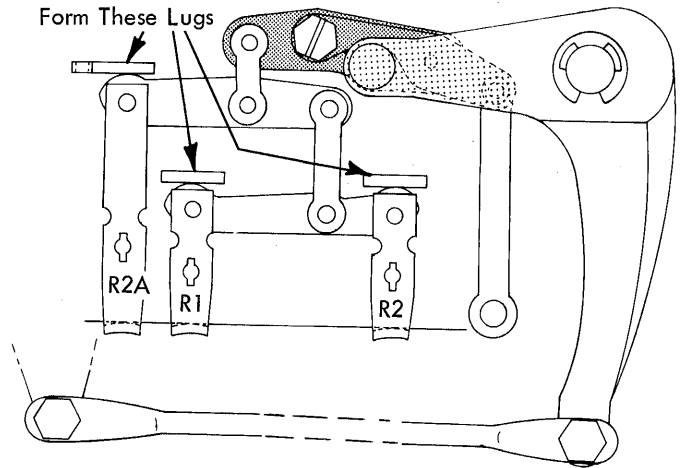

FIGURE 115. Rotate Selector Latches
- a. Form the stop lugs above the positive rotate selector latches (Fig. 115) so that the latches will reset simultaneously (under the latch bail) just as the cycle clutch check pawl drops into the notch on the check ratchet at the rest position.